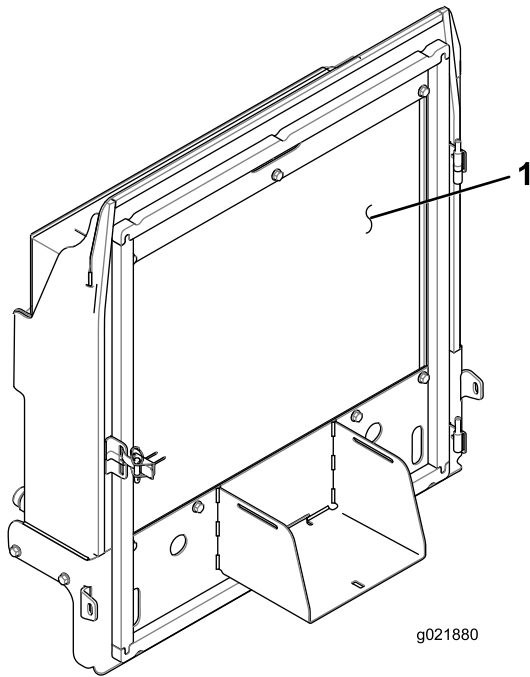

Figure 143
4. Thoroughly clean both sides of the radiator/oil cooler with compressed air (Figure 143).